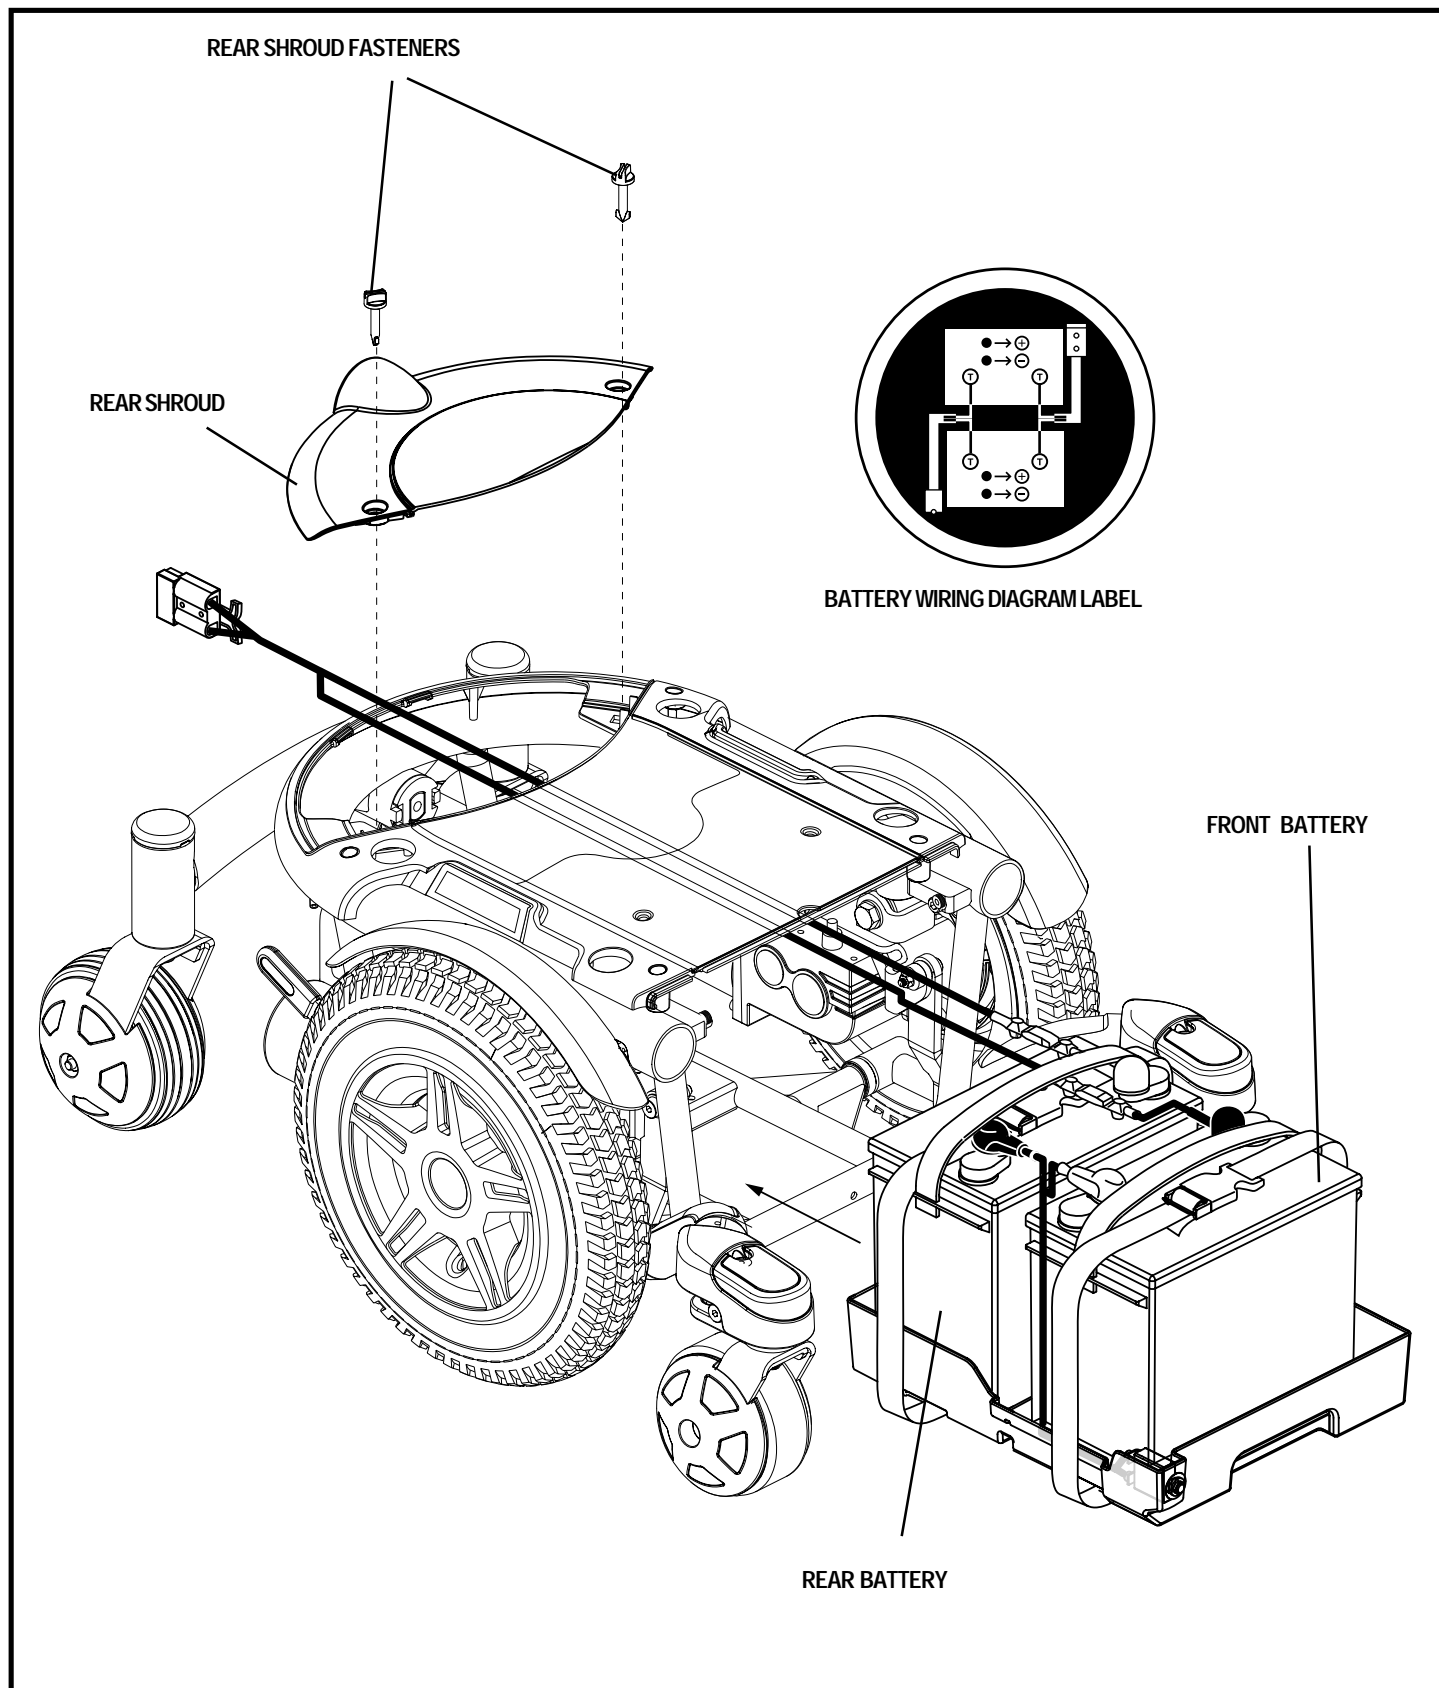

Figure 27. Battery Installation
3. Loosen the rear shroud fasteners. See figure 27.
13. Connect the battery harness to the front battery according to the battery wiring diagram. See figure 27.